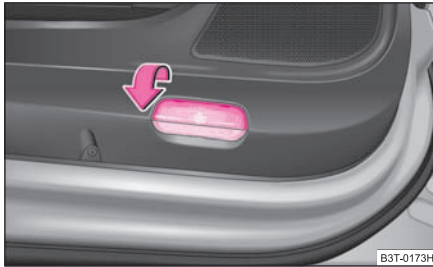

Fig. 230 Front door: Warning light
- Fold out the light in direction of arrow ⇒ fig. 230.